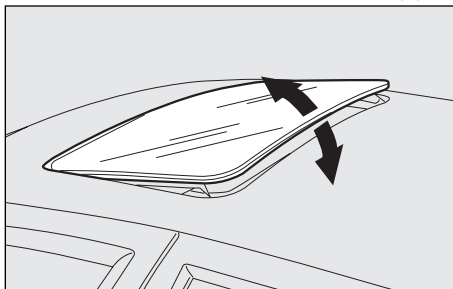
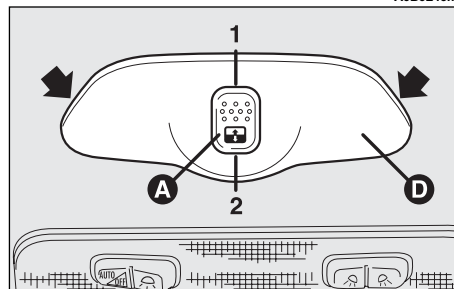

fig. 140
fig. 141
This can only be achieved **(fig. 140)** when the sunroof is completely closed, pressing front end **(2)** of the control button **(A-fig. 141)**.
Press the rear end **(1)** of the button **(A-fig. 141)** to return the sunroof to the horizontal position (roof closed).
- apply leverage to the points indicated by the arrows and remove the plate with switch (**D-fig. 141**);